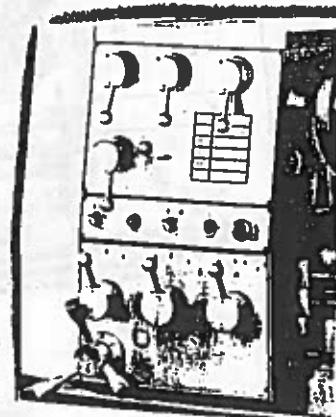

Fig 7
There is a push button ②9 in the higher portion of norton feed gear box (see Fig. 7). Push it slightly. The spindle will run positively and stop automatically. This is for changing speed easier and adjusting the center for raw material when a 4-jaw chuck is used.